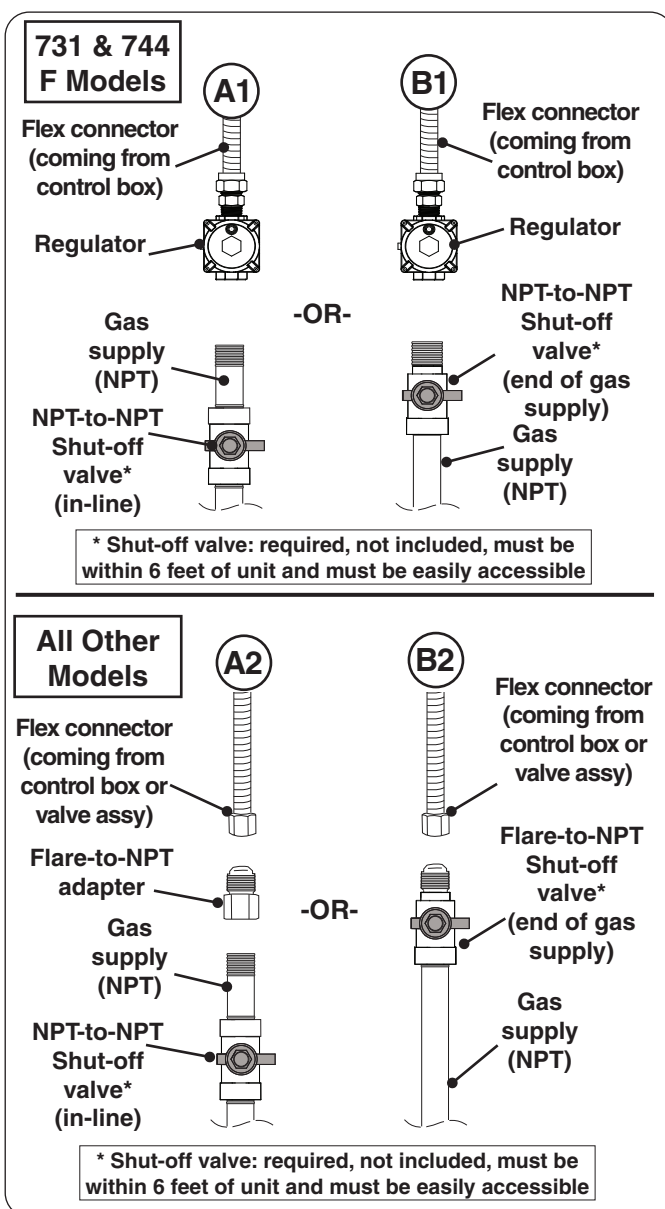

Fig. 30-1 Connecting to a gas line
- Connect the regulator (on end of flex connector) to the gas supply (NPT) OR shut-off valve (NPT) using a pipe joint compound resistant to all gasses (see Fig. 30-1, A1 or B1). Tighten securely.
- Install the supplied flare-to-NPT adapter to the gas supply (NPT) using a pipe joint compound resistant to all gasses (see Fig. 30-1, A2). Tighten securely.
- Connect the flex connector to the adapter (see Fig. 30-1, A2). Tighten securely.
- Connect the flex connector to the shut-off valve (flare)(see Fig. 30-1, B2). Tighten securely.